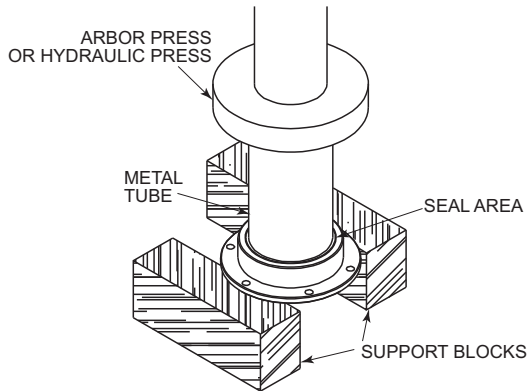

Figure 6.2.2 Removal of Seals from Seal Carrier
2. With a set of blocks or equivalent, support the seal carrier up so the seals can be pushed out; reference Figure 6.2.2, next page.